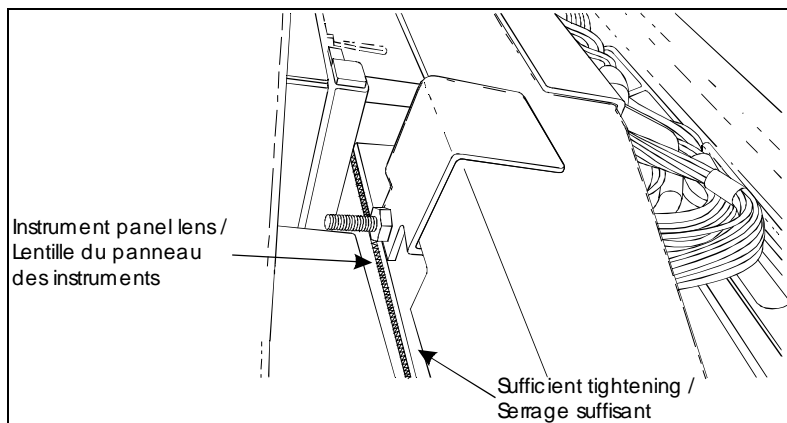

FIGURE 3
**Note :** The instrument panel supports may be lowered from 1 mm to 2 mm maximum if, after tightening, the pane does not clear the housing (figure 3).
3. Bring back the top of the instrument cluster, insert the screws and tighten the nuts until the instrument cluster rests against the housing (figure 3).